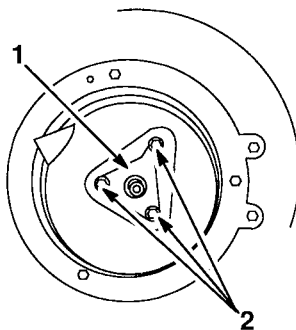

**Figure 34**
4. Remove blade driver by tapping with plastic or fiber hammer in the direction of rotation (Fig. 34). This will loosen the blade driver from taper on crankshaft.